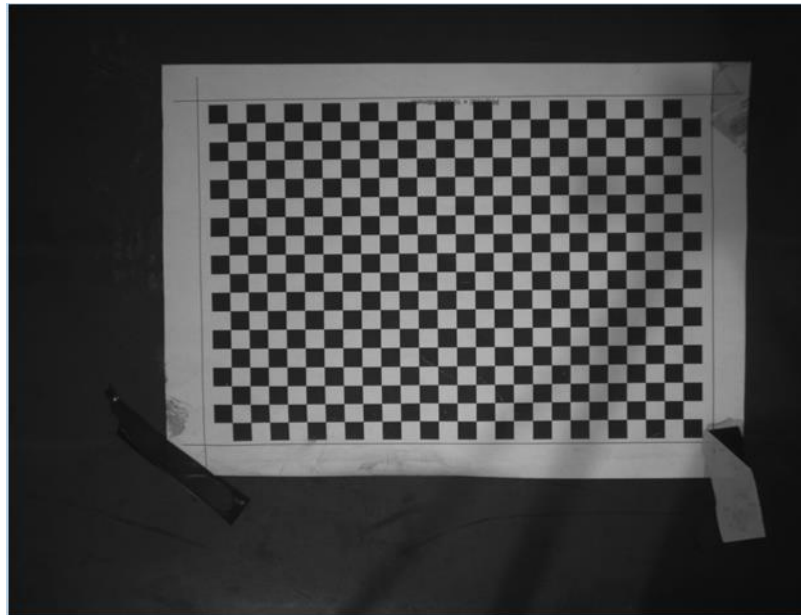

Figure 5-33 Chessboard calibration board
- Step6. Place the chessboard calibration board on the conveyor belt (as shown in Figure 5-33). When placing it, try to make the long side of the chessboard calibration board parallel to the edge of the conveyor belt. The plane of the calibration plate is at the same height as the upper surface of work object.